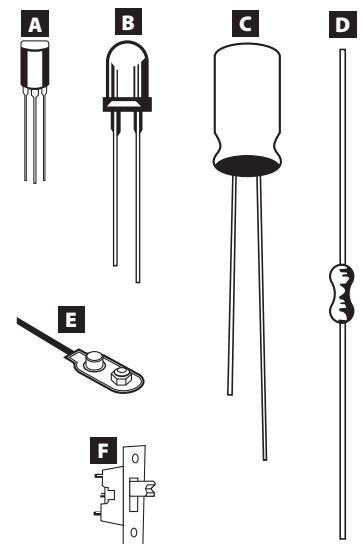

Figure 1 – Blinky components
1. Using the Included Materials section, make sure you have all of the Blinky parts. The letters next to the Part Name correspond to the part's image (Figure 1). Notice the location(s) of each part on the circuit board are to the left of the part names.